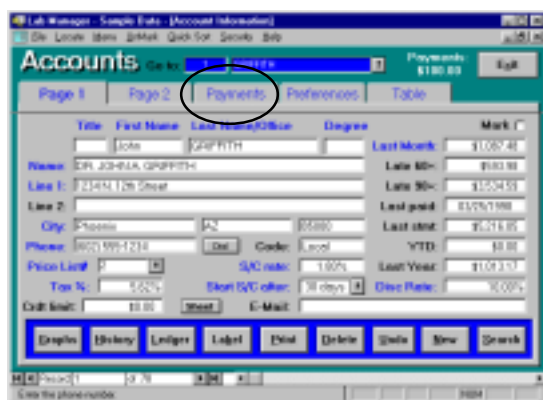
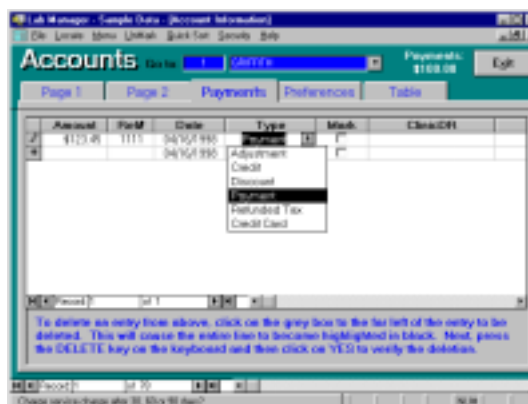

Figure 1
Figure 2
Step 3: Once the account is on the screen, click on the Payments tab as shown in Figure 1. This will then show the payment window as shown in Figure 2.
Using Lab Manager's multiple price list feature, you would assign all of your **current** accounts to Price List #1 as shown in **Figure 1**. Next, all of the **new** accounts that you bring in will be assigned to Price List #2.